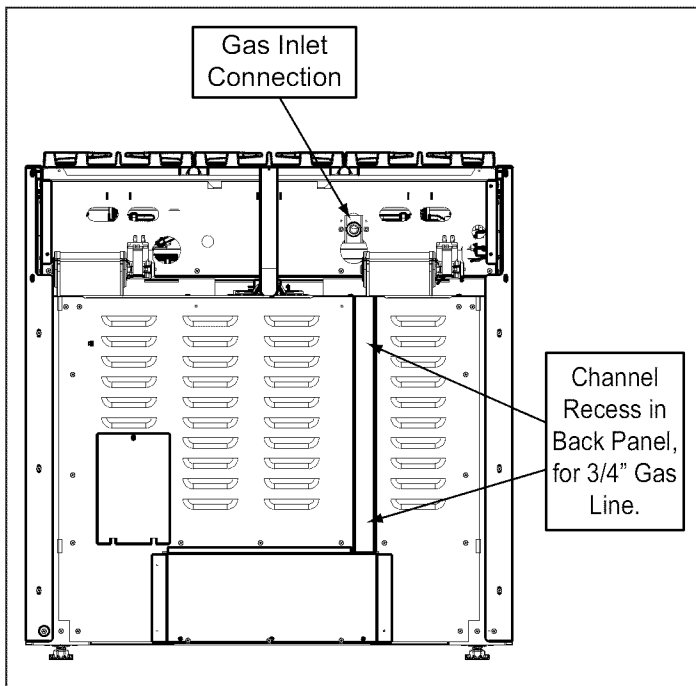

Figure 8: Appliance Manifold Pipe Connection
- Use 3/4" flex line to connect between the gas supply and the appliance inlet pipe, which exits the upper rear of the appliance. The appliance pipe connection has a 3/4" NPT external thread and a 1/2" NPT internal thread. (See Figure 8.) Use caution to avoid crimping the 3/4" flex line when making bends.